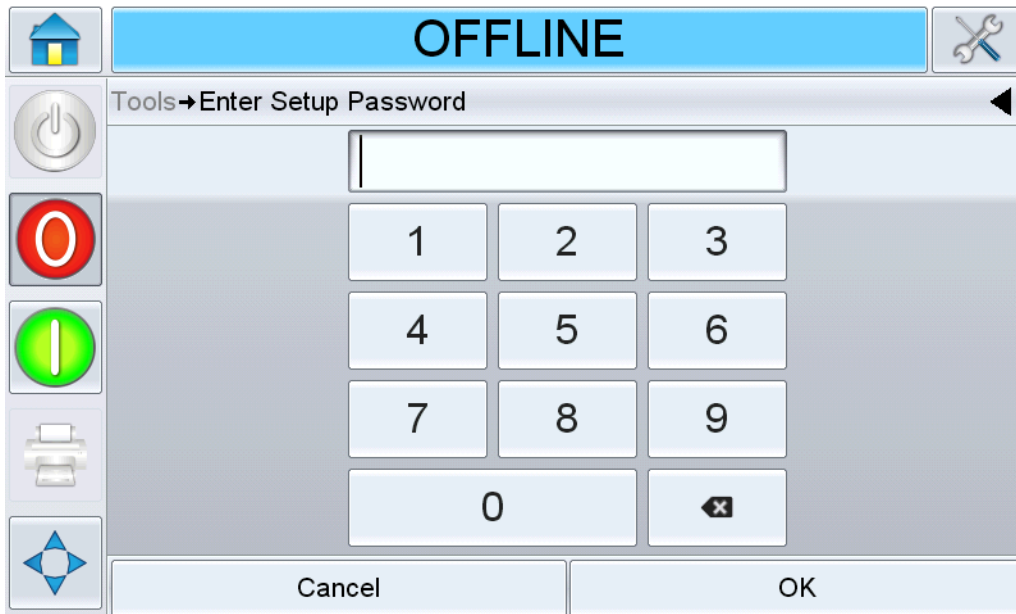

Figure 5-34: Password Screen
- 1. Touch Tutorial Videos on the Help screen to access the tutorial videos (Figure 5-34). Select the required video for specific task and basic troubleshooting.